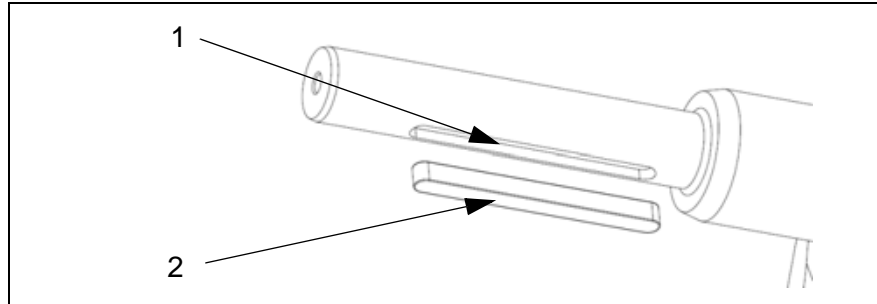

Fig. 4:
1. Fix the pillow block (3, Fig. 4) on both sides of the main shaft (2, Fig. 4) .
2. Slide the main axle (2, Fig. 4) through the two slots (4, Fig. 4) in chute wall.
3. Secure the pillow blocks (3, Fig. 4) using the bolts (5, Fig. 4) to the tensioners (6, Fig. 4).
5. Push the angled gearbox motor with mounting plate for motor torque support (1, Fig. 4) onto the shaft.
6. Fix bolts (4, Fig. 4) of the pillow block on both sides with the nuts.